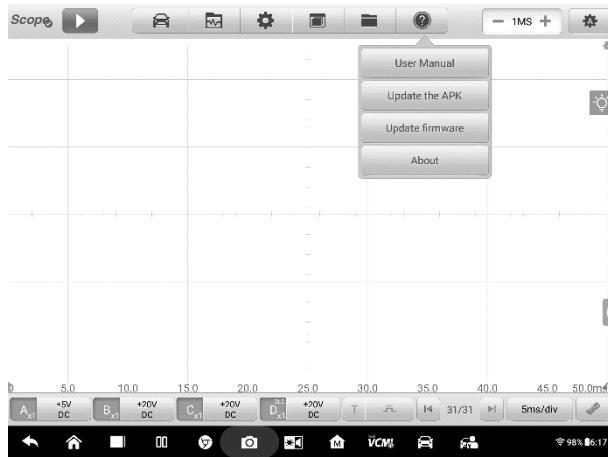

Figure 7-2 Sample Help Screen
1. Tap the **Help** button on the upper half of the screen. A dropdown menu displays. (**Figure 7-2**)